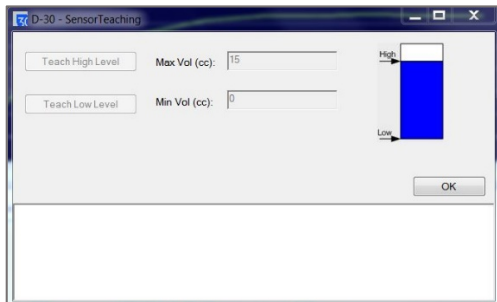

Figure 5 Teaching menu
10. Press 'teach high mode'. (**Figure 5**)